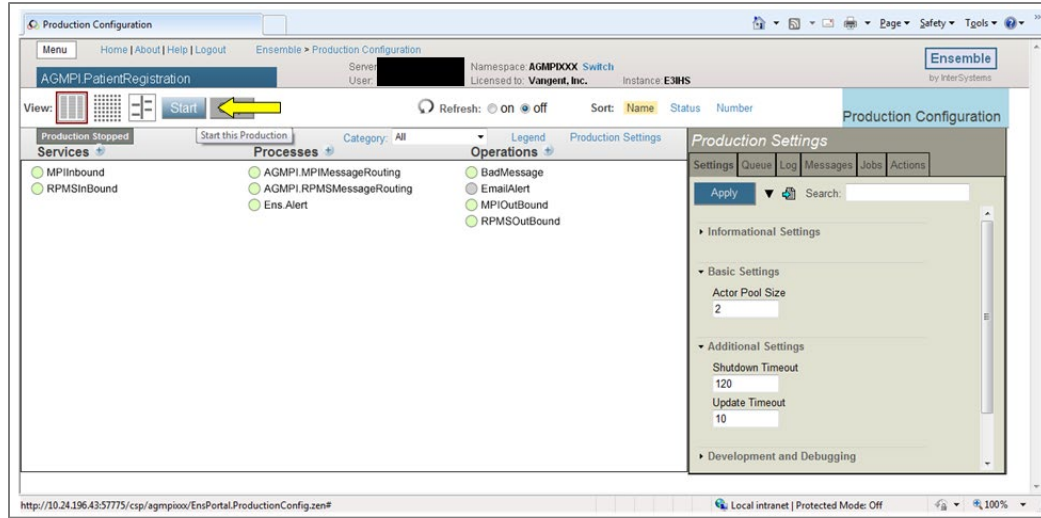

Figure 8-11: Start a production instance by clicking the **Start** button
4. To start a production, click the **Start** button on the **Production Configuration** page, as shown in Figure 8-11, then click **OK** in the **Start Production** dialog box.